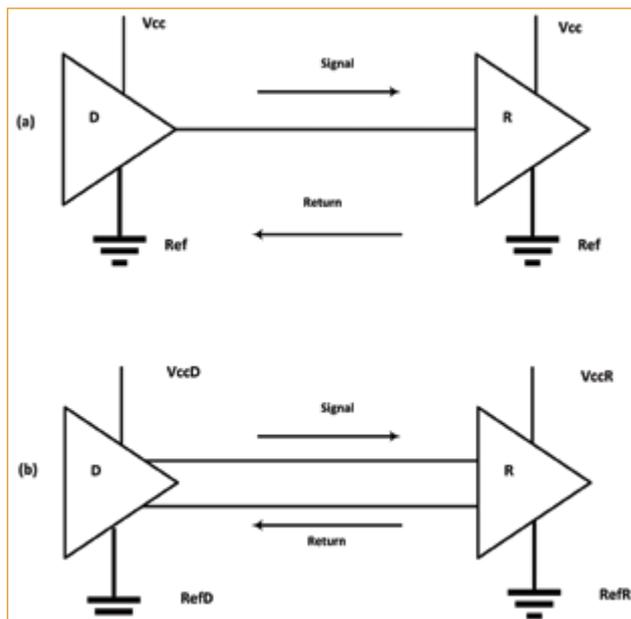

FIGURE 1. Single-ended (a) and differential (b) signals.
First, **what are differential signals, and why are they different?** FIGURE 1 illustrates a single (sometimes referred to as a single-ended) trace connecting a driver and a receiver (a) and a differential trace pair (b). Let's say the signal amplitude (with respect to the reference voltage) in Figure 1a is $V = +1$. In Figure 1b, there are two signals, $V_+ = +1$ and $V_- = -1$. What
- Every signal has a reference. Single-ended signals are typically referenced to something we show as Ref in Figure 1. This means the references for the driver and receiver must be equal. Differential signals, on the other hand, only reference each other (we will show later this is not necessarily true!) so RefD and RefR can be different. In fact, since the references do not matter, at least in theory, they can both be noisy without degrading the signals.